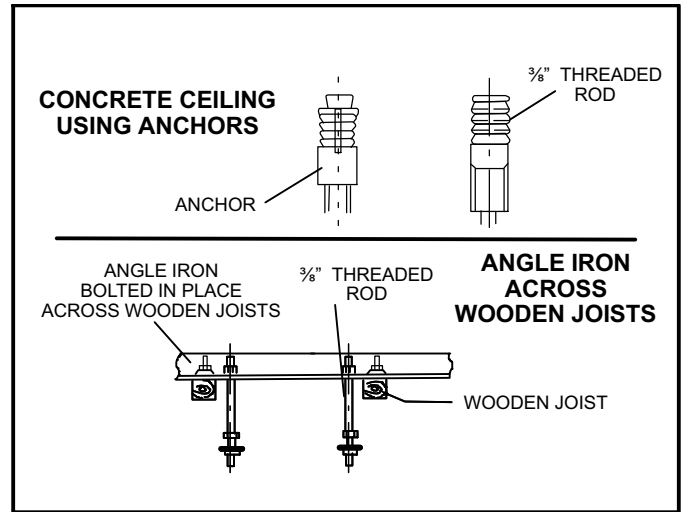

Figure 1. Suspending Methods
- 1 - **Make sure that the structural ceiling is able to support the weight of the mode selection box(es). It may be necessary to add extra support.** If the structural ceiling is constructed of concrete, install anchors to accept four $\frac{3}{8}$ " threaded rods to suspend the mode selection box. If the structural ceiling includes wooden joists, use angle iron or a Unistrut channel fixed securely in place to accept the $\frac{3}{8}$ " threaded rods. See figure 1.